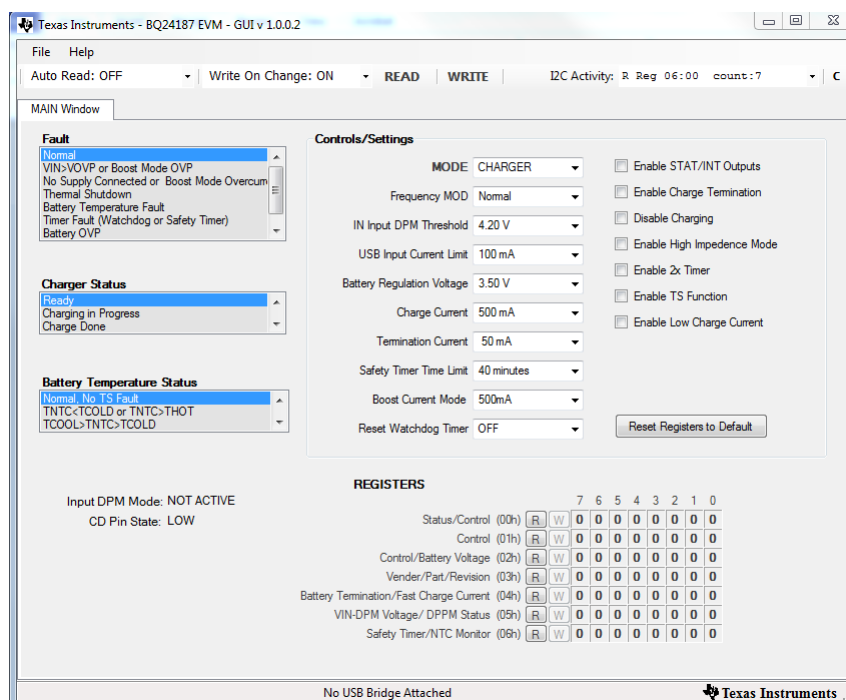

Figure 5. Main Window of BQ24187SW Evaluation Software
11. Turn on the computer. Open the BQ24187 evaluation software. Figure 5 shows the main window of the software.